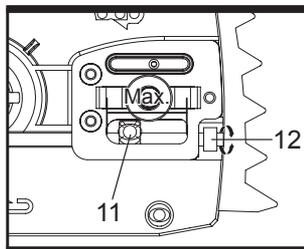

Fig. 5
Ensure the chain tensioning screw (12) is slackened sufficiently to allow the locking pin (11) maximum travel.(see Fig. 5)